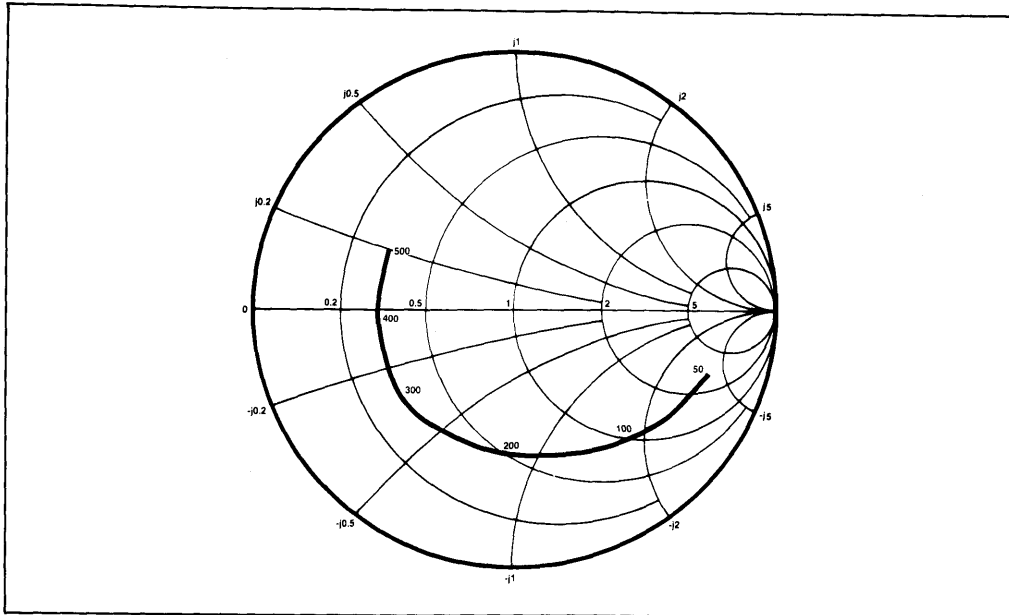

Fig.5 Typical input impedance. Test conditions: supply voltage -5.2V, ambient temperature 25° C, frequencies in MHz, impedances normalised to 50 ohms.
- Input impedance is a function of frequency. See Fig. 5.